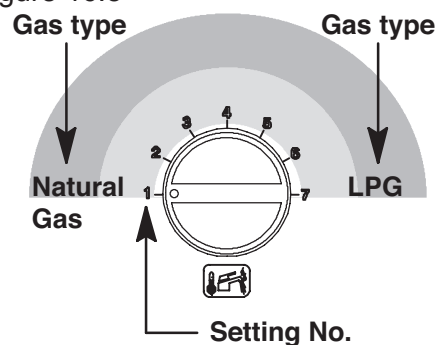

Figure 16.8
- To change the setting, turn knob 8 and position it in the preselected position, see Figure 16.8